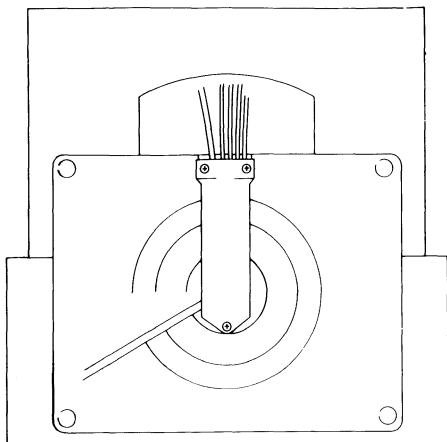

Figure 5-54. Underside of Cover and Tilt-and-Swivel Assembly
16. Place the display so that the tilt-and-swivel assembly is toward you as shown in Figure 5-54.